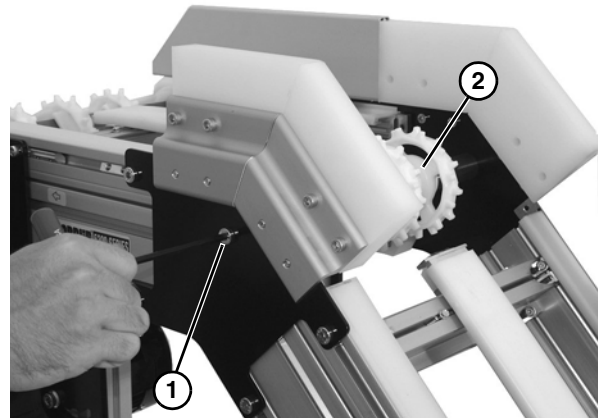

Figure 52
1. Remove socket head cap screw (**Figure 52, item 1**), on each side of upper knuckle assembly, and remove shaft and sprocket assembly (**Figure 52, item 2**).